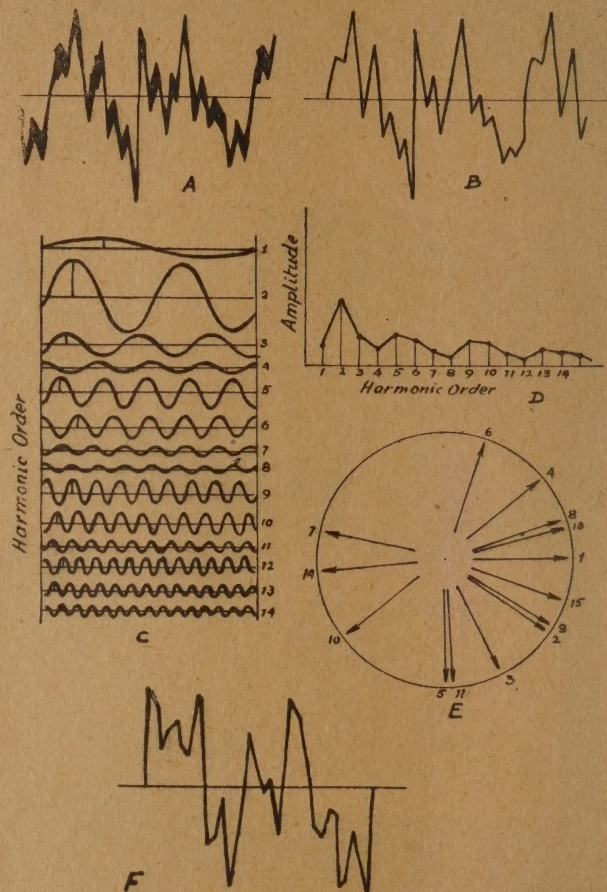

Fig. 5.
Fig. 5 (A) shows an oscillogram of a steadily-bowed violin string, and at (B) it has been simplified into a thin line form for greater clarity. (C) shows the complete analysis up to the 14th harmonic, while (D) is a spectra diagram for the comparison